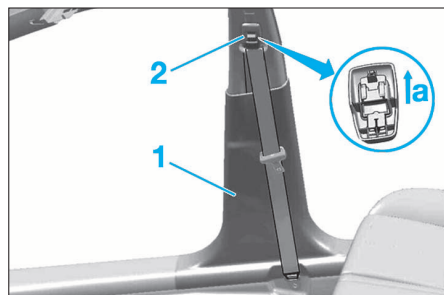

FIG. 17
- Déposer la garniture (1) (Fig.17).